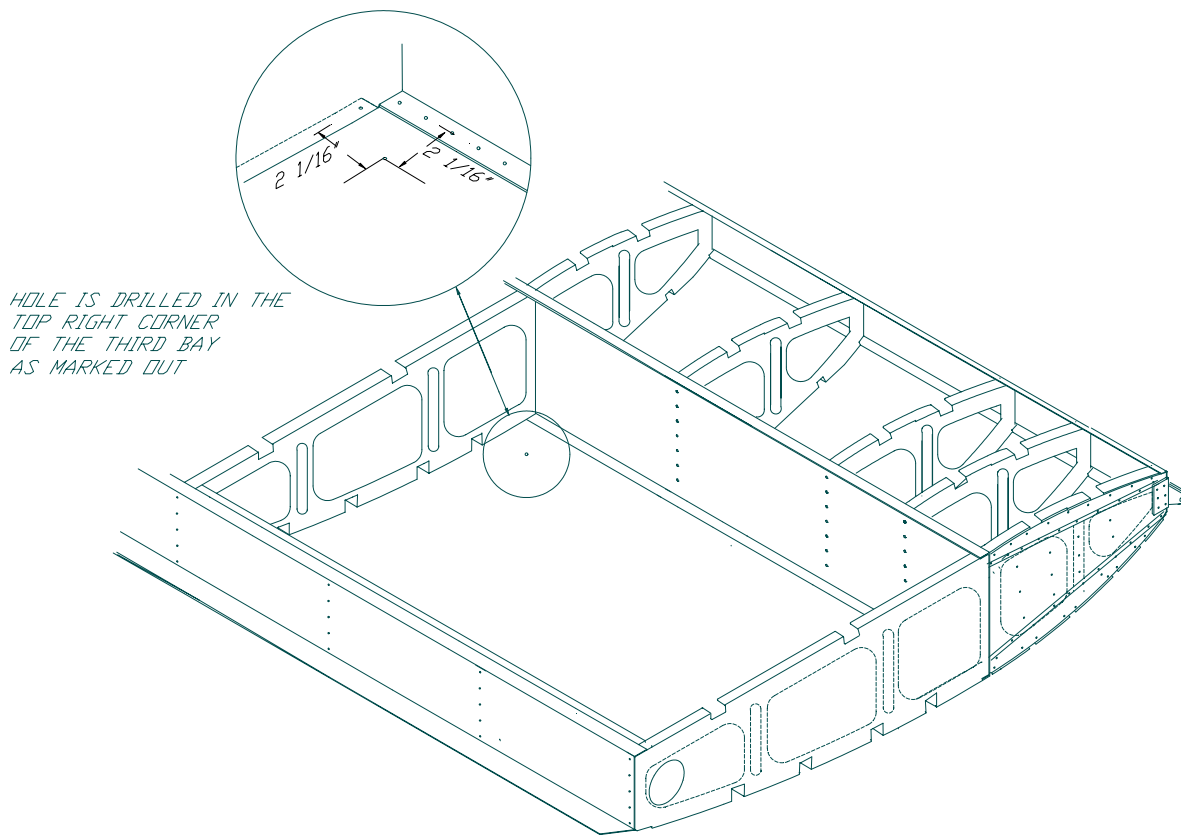

Figure 8.20.1
- 2) Drill a #40 hole through the Top Skin and Top Tank Skin in the position shown in Figure 8.20.1. This will become the fuel filler hole.